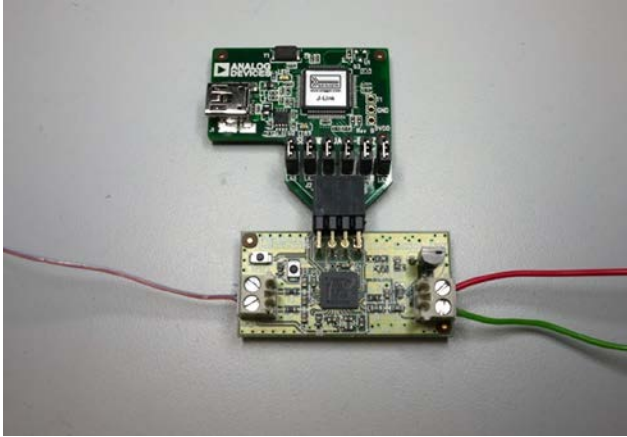

Figure 3. EVAL-CN0300-EB1Z Board Connected to the Analog Devices J-Link OB Emulator
- The J1 connector, an 8-pin dual-in-line connector, connects to the Analog Devices J-Link OB emulator that is provided with the CN-0300 support hardware. This allows programming and debugging of this application board. See Figure 3.